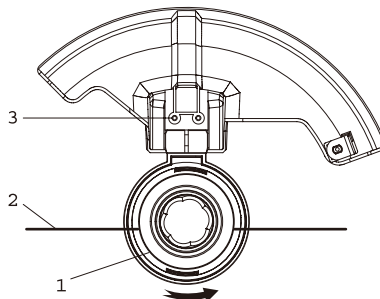

FIG. 7a
1. Place the tool on its back on a clean work surface (Fig. 7a).
2. Slide the guard in the direction as indicated by the arrow (1).